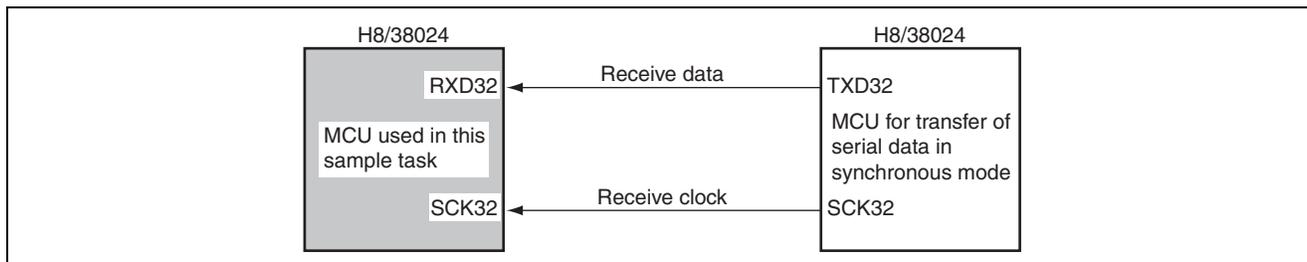

Figure 1.1 Serial Data Reception in Synchronous Mode
1. As shown in figure 1.1, four bytes of 8-bit data is received using the serial data transfer function in synchronous mode.